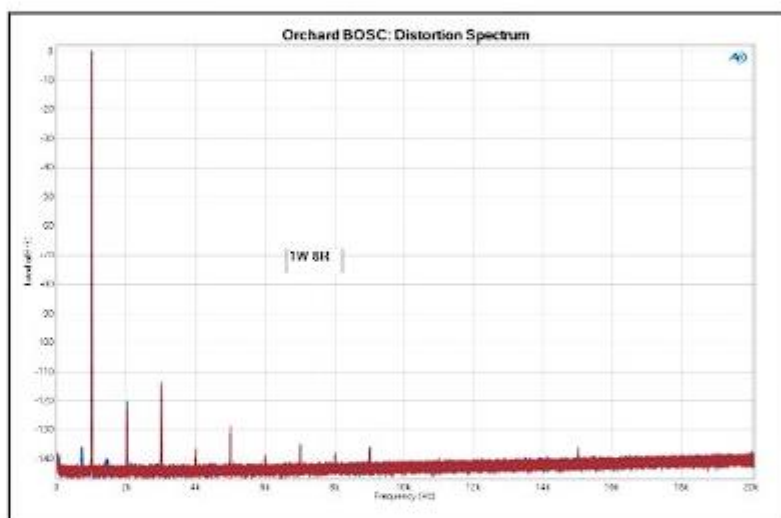
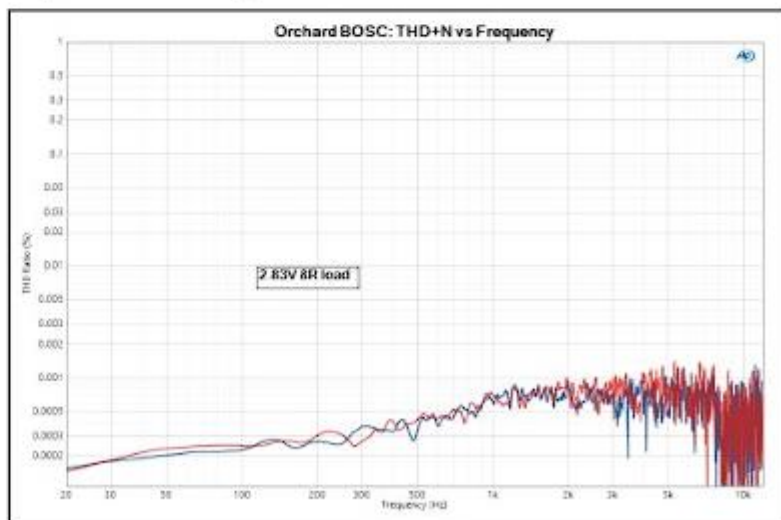

Figure 6: At 1 W into an 8  $\Omega$  load, the BOSC's distortion is below the Audio Precision analyzer's measurement capabilities.
Figure 7: The BOSC's THD vs. frequency at 1 W shows absolutely negligible distortion through the audio band.
**Figure 6** shows the distortion spectrum for a 1 kHz signal at 2.83 V into an 8  $\Omega$  load (1 W). It is dominated by the residual distortion of the AP analyzer, which is extremely impressive! Sweeping the frequency at the same fixed 2.83 V output level, the total harmonic distortion plus noise (THD+N) results are shown in **Figure 7**, and are likely dominated by the noise. In any event, any distortion is well below 0.001%, so it's safe to declare it inaudible.